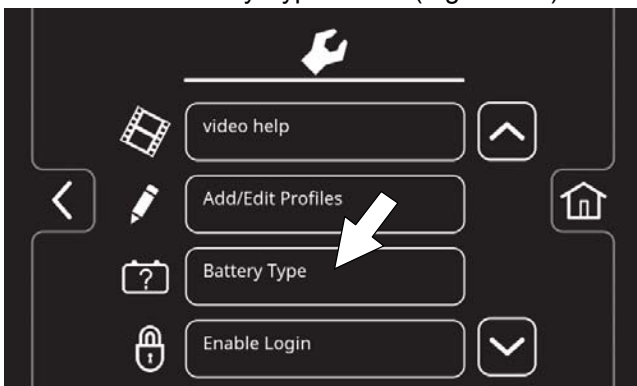

FIG. 136
3. Press the Battery Type button (Figure 136).